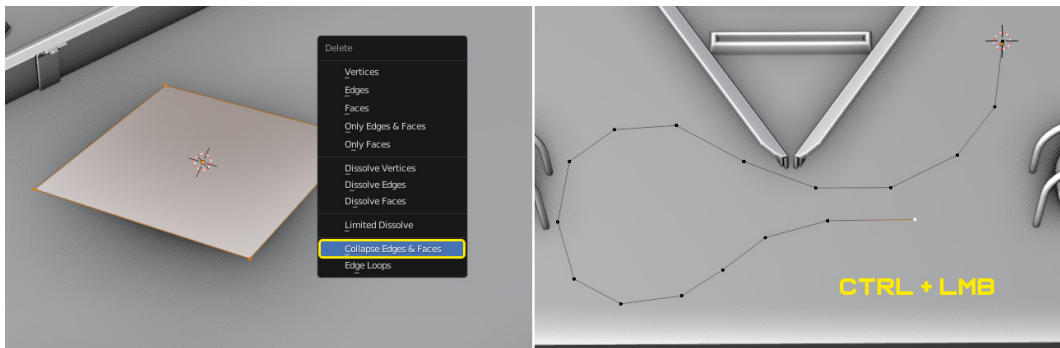

Figure 8.29 – Collapsing (left) and the cable shape (right)
7. Use the resulting vertex to extrude the rough shape of the cable, as shown in *Figure 8.29* (right).